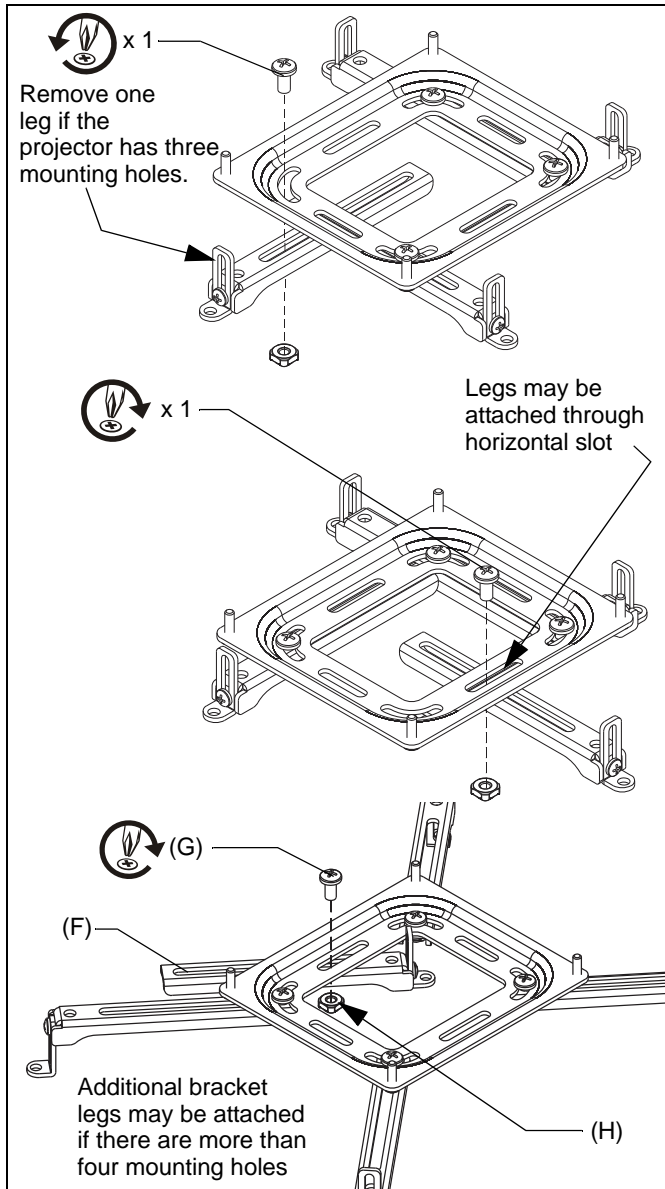
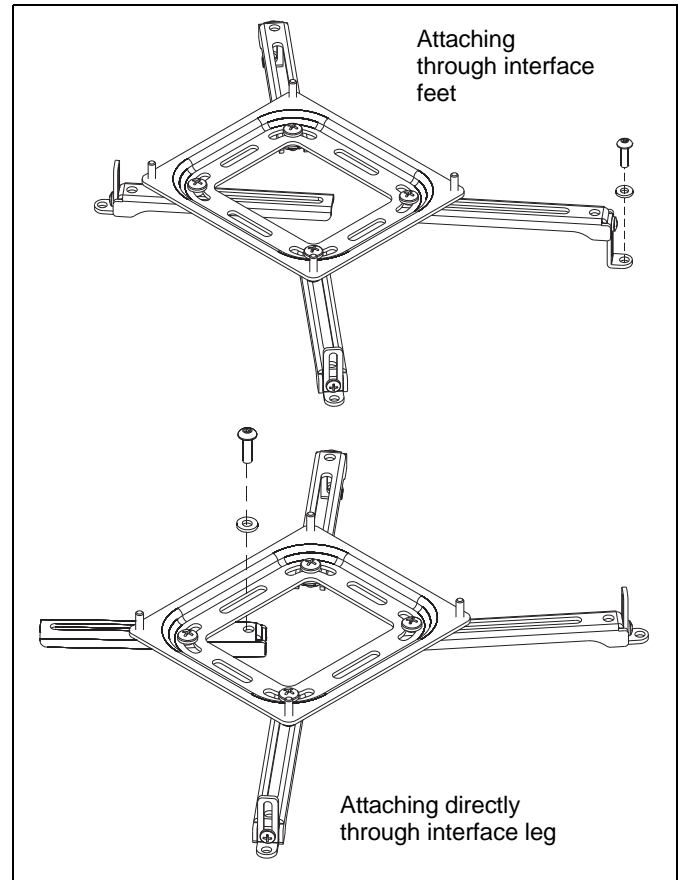

Figure 4
Figure 5
**NOTE:** Remove one Phillips screw, hex nut and leg if the projector only has three mounting holes. (See Figure 4)
**NOTE:** Add additional bracket leg(s) (F) (using one 1/4-20 x 1/2" Phillips head cap screw (G) and one square nut (H) per bracket leg) if projector has more than four mounting holes. (See Figure 4)
**NOTE:** If it is not possible to align the adjustable legs with the mounting hole pattern on the projector, a leg or legs may be moved and/or removed so that the interface bracket may be aligned using a horizontal slot. (See Figure 4)
5. Secure interface bracket (B) to the projector by selecting the screws (K-U) and flat washers (R or V) that fit the mounting holes in the projector.
**NOTE:** The M2.5, M3 and M4 Phillips screws are used with the M4 flat washers (V). The M5 and M6 Phillips screws are used with the M6 flat washers (R).
6. Attach the universal interface to the projector either through the bracket feet, or directly through the legs. (See Figure 5)